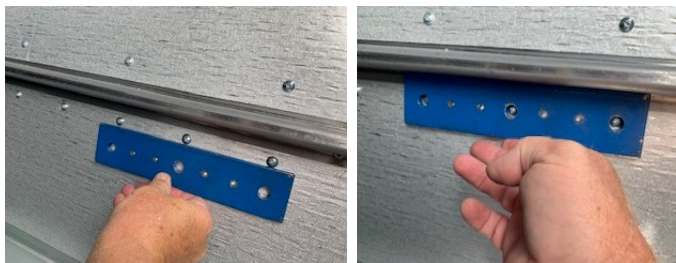

Fig. 4
4. Place, and firmly hold the horizontal template/fixture in place over the existing screws shown in Fig. 4.